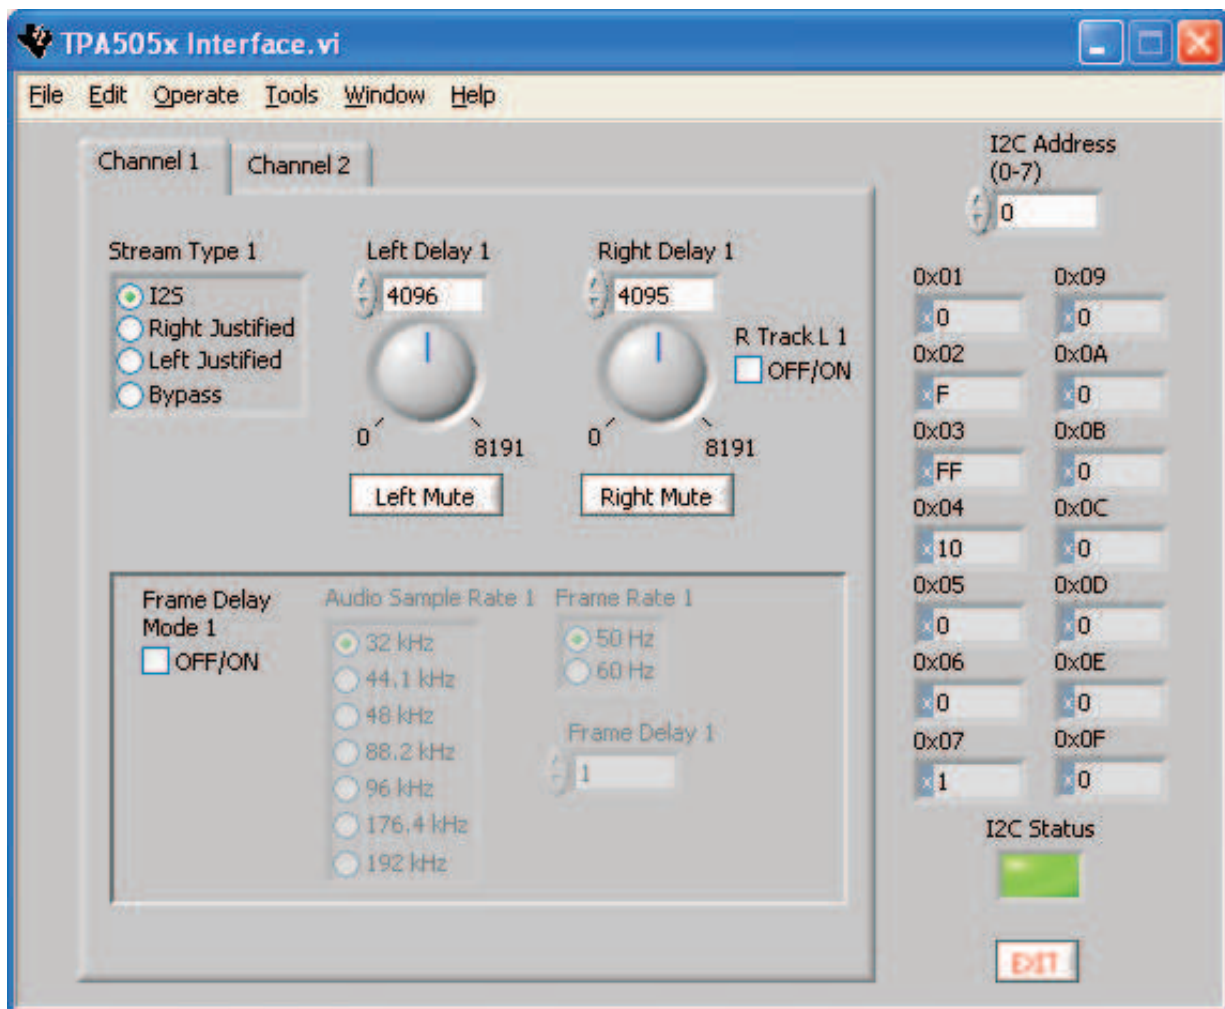

Figure 1. TPA5050 in I²S Mode With Separate Delays for Left and Right Channels
3. The right and left delays can be adjusted by turning the knob to the desired number of delay samples, or simply entering the number in the box provided (see Figure 1).